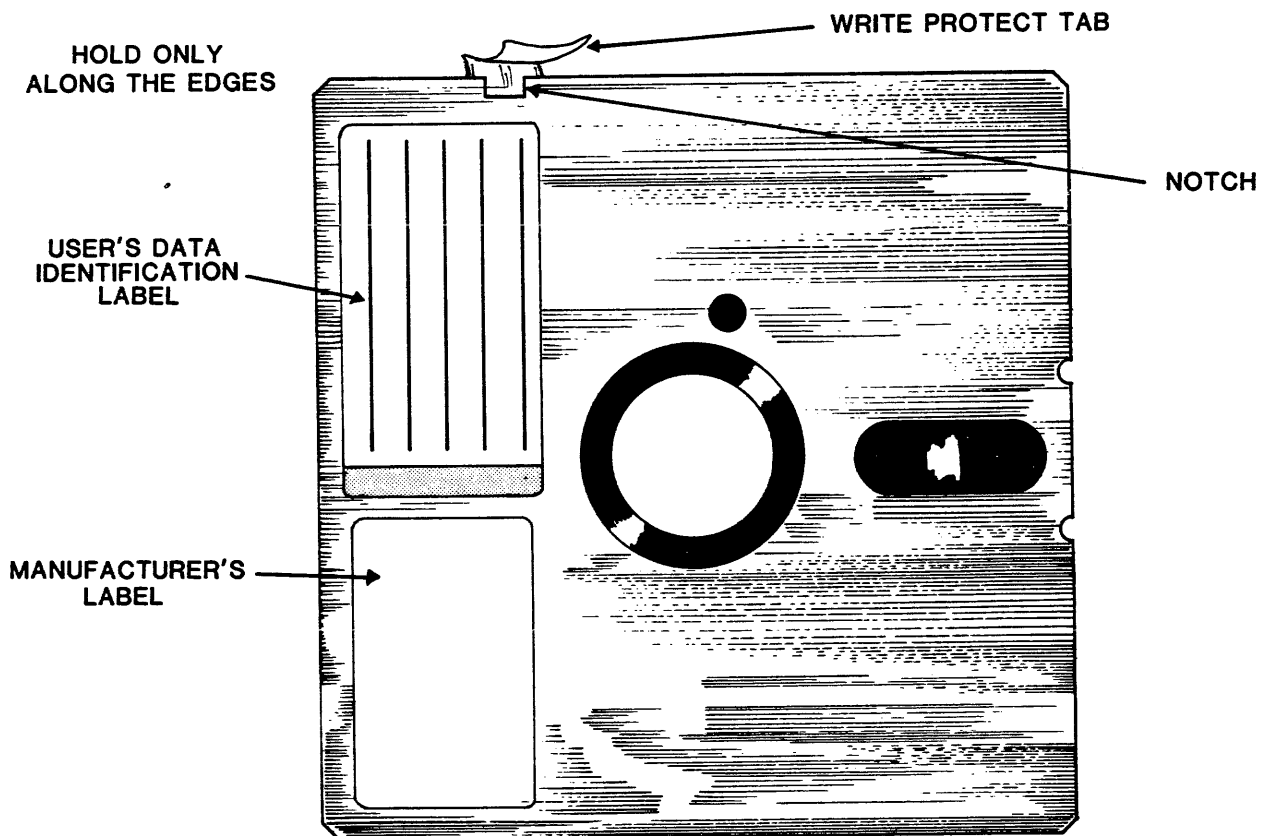

Figure 4-1. A Floppy Disk with Write-Protect Tab
To apply a write-protect tab on a diskette, peel the tab off its backing, and place it over the notch on the edge of the diskette. See Figure 4-1 for a representation of a diskette with a write-protect tab. To remove a tab from a disk, simply peel it off. The tab is reusable; you do not have to discard it after removal.
3. Hold the diskette with the notch facing upward (see Figure 4-1). Carefully slide the diskette into the drive until it stops.